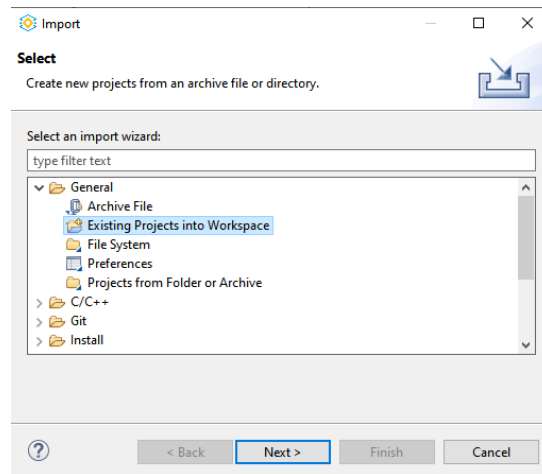

Figure A.3. Existing Project into Workspace
4. Select **Existing Projects into Workspace** from the **General** list and click **Next** as shown in Figure A.3.